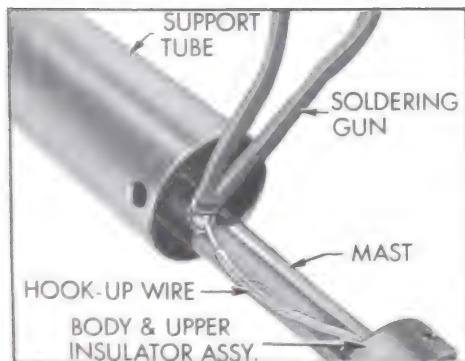

Figure 11-14—Hook-Up Wire to Mast Connection
3. Unsolder hook-up wire from 0.400 inch diameter section of the mast (see Figure 11-14).
25. Solder the free-end of the hook-up wire to the 0.400 inch diameter section of the mast section, using rosin flux solder (see Figure 11-14).